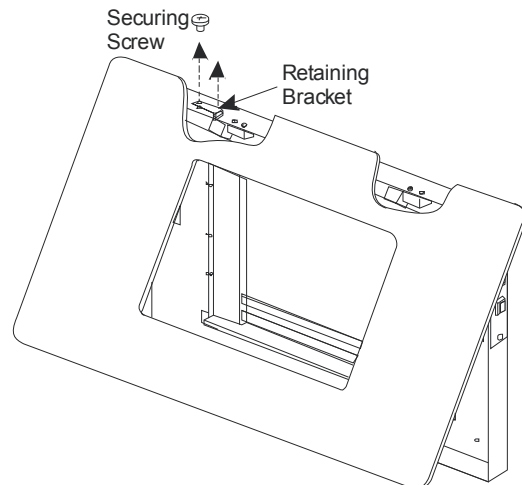

Figure 61
2. Remove the fascia retaining bracket by removing the fixing screw (see **Figure 61**).